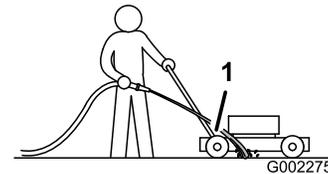

Figure 39
3. Hold the running garden hose at handle level and direct the water to flow on the ground just in front of the right rear tyre (Figure 39).